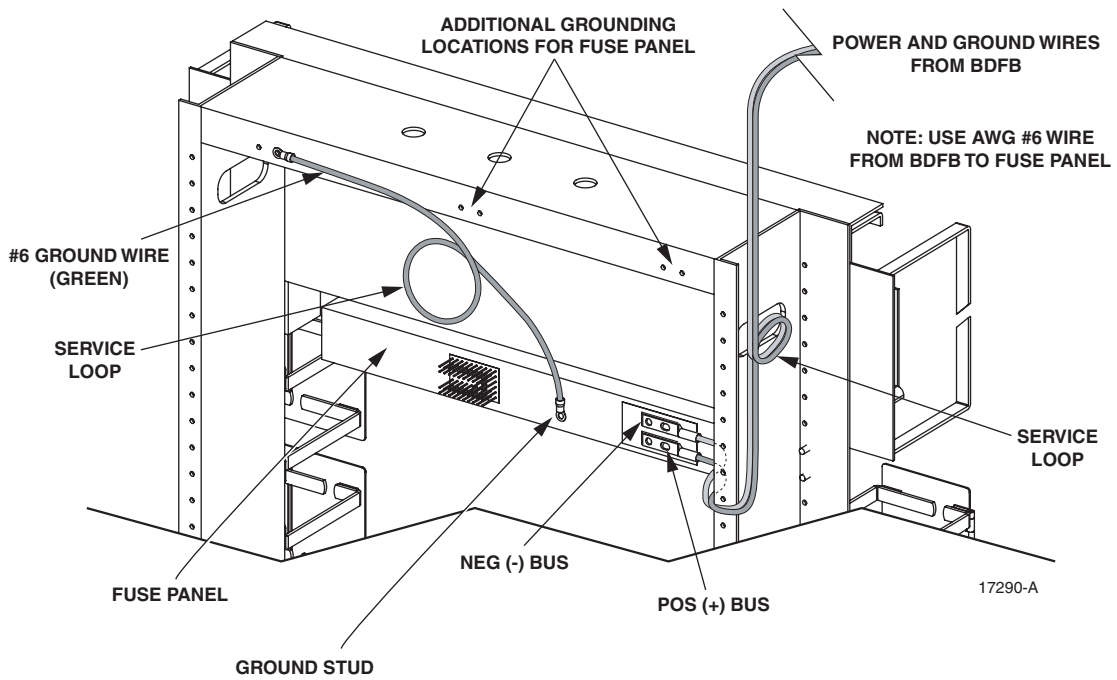

Figure 2-3. Power and Ground Connections to Fuse Panel (Rear View)
2. Using AWG No. 6 wire (2), connect the overhead supply feeders from BDFB to the NEG (-) BUS and the POS (+) BUS connectors on the rear of the fuse panel. Make sure to leave a service loop in each wire. See Figure 2-3.